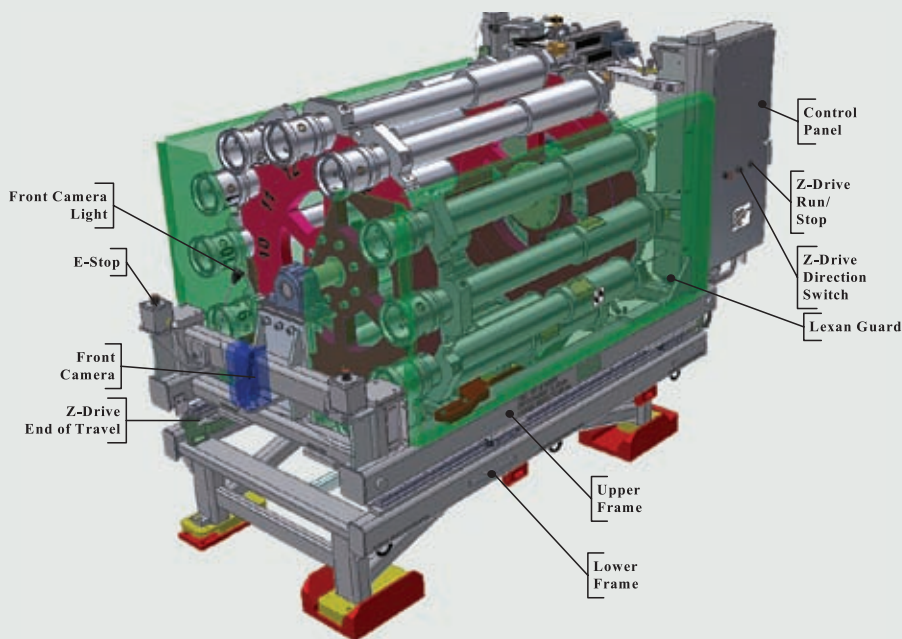

Figure 2: TMM General Assembly
The lower frame assembly, as shown in Figure 2, is a structural weldment that consists primarily of hollow structural steel members. Its function is to locate and support the TMM upper frame assembly on the trolley and provide the TMM axial motion.
The upper frame assembly, as shown in Figures 2 and 3, is a structural weldment that consists primarily of hollow structural steel members. Its function is to support and align the magazine assembly and the Purge system.
- Removable Lexan guard system (Figure 2)